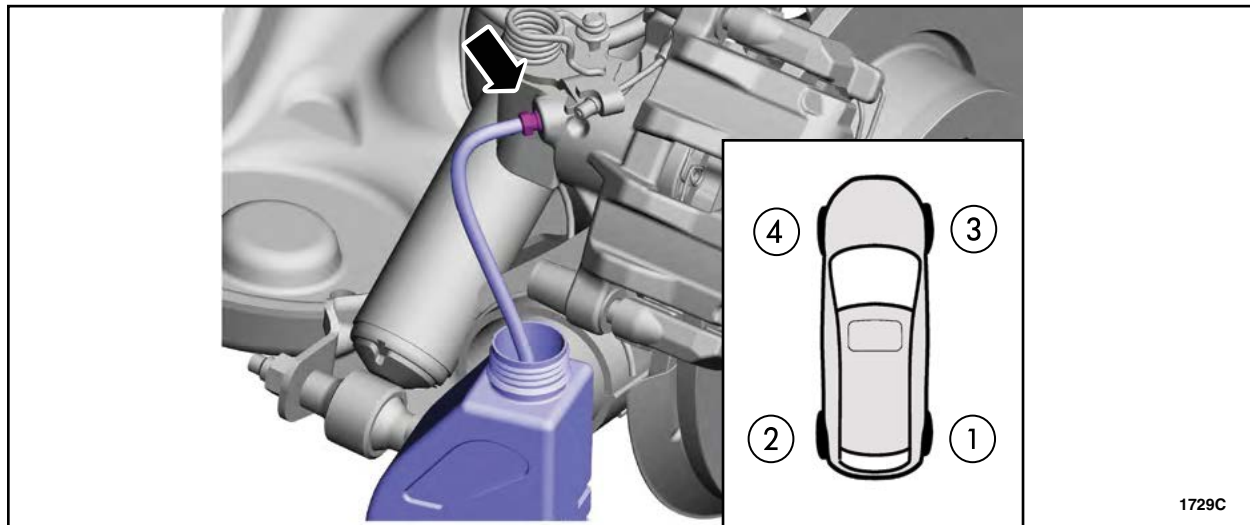

FIGURE 24
6. Loosen all four caliper bleeder screws in the order indicated. See Figure 24. Allow approximately 10 fl oz (295.7 mL) to drain from each bleeder screw one wheel at a time.